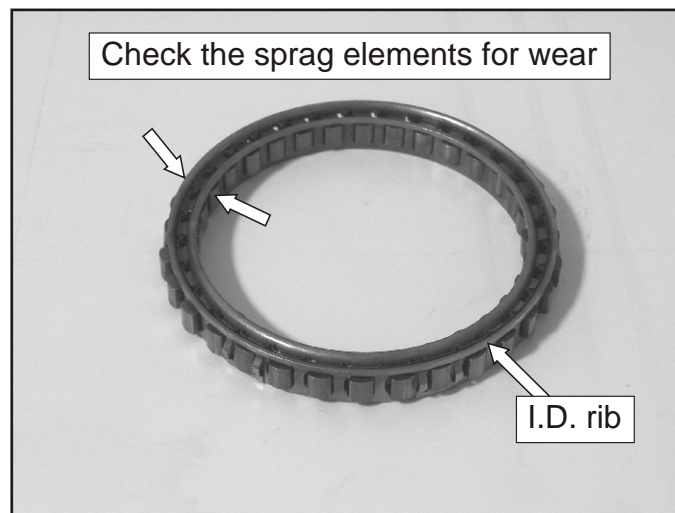
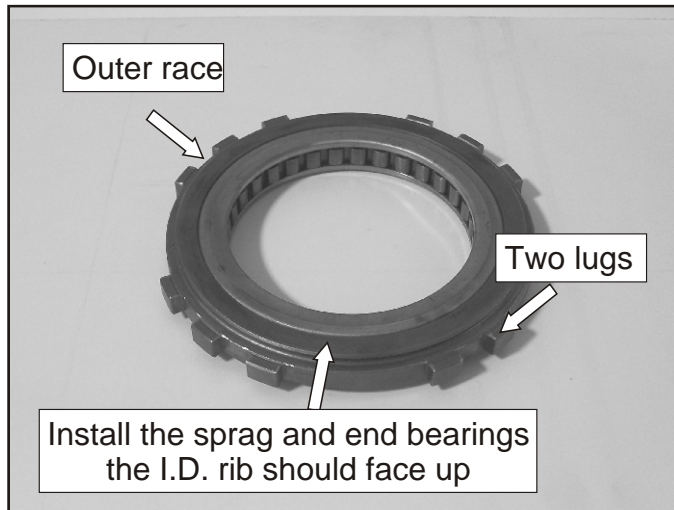

Figure 151
Figure 153
97. Inspect the sprag elements for wear as shown in Figure 151, and replace as necessary.
99. Install the F3 sprag and end bearings into the outer race as shown in. Refer to Figure 151 for the orientation of the I.D. rib. Ensure that the two lugs on the outer race are in the 5 o'clock position, as shown in Figure 153.